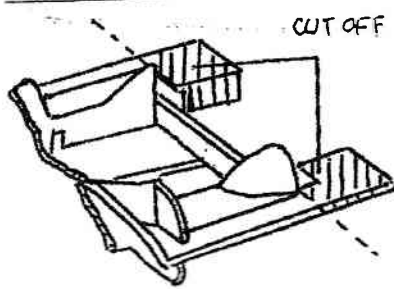

FIG. 1
3. Remove the tub extension from the rear of the interior (Fig. 1).